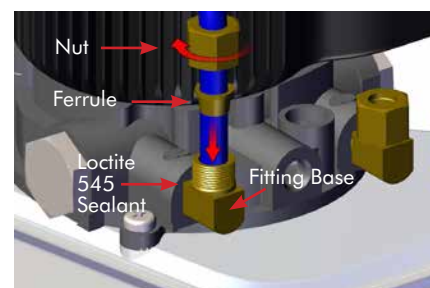

Figure 5
3. Push the blue tubing into the compression fitting labeled UP (blue dust cap), and the black tubing into fitting labeled DN (black dust cap). While holding the blue tubing fully inserted into its respective compression fitting base, begin threading the compression fitting nut onto the base. Repeat this step for the black tubing. **(FIG. 5)**
**IMPORTANT:** The tubing needs to pass through the ferrule far enough to expose approximately 1/2" of tubing. **(FIG. 5)**